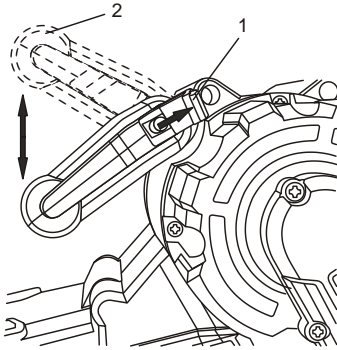

Fig. 7
1. Pull the front handle adjustment lever (1) out of the left hand side of the front handle (Fig. 7).